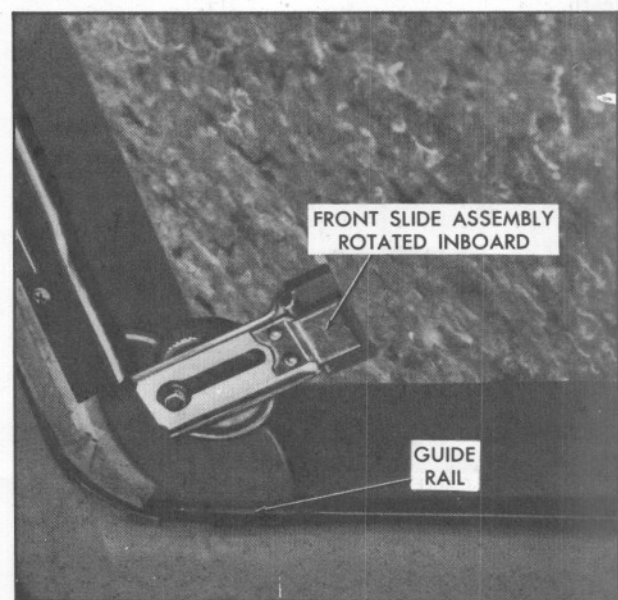

Fig. 15-33 Front Slide Assembly Clear Of Guide Rail
7. Loosen inboard slide screw and rotate each front slide assembly inboard to clear guide rail, Fig. 15-33.